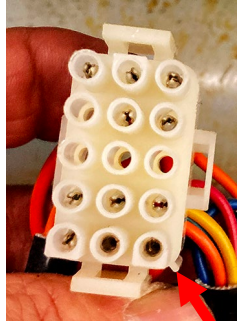

Figure 74
- 74. Reattach the black main 15-pin harness to the top plug on the rear of the component box. Pin 1 (denoted by the tab) is in the lower right corner (see Figure 74).